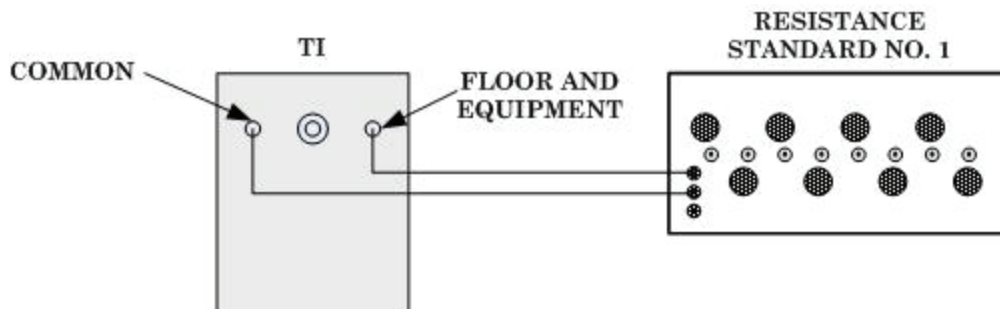

Figure 1. Performance check setup for less than 1 megohm (floor and equipment).
- (1) Short **COMMON** and **FLOOR AND EQUIPMENT** terminals on TI.
- (2) Push **PRESS TO TEST** button on TI and zero the meter. Release button.
- (3) Remove shorting lead from TI.
- (4) Connect equipment as shown on figure 1 for calibration of TI up to but not including 1 megohm.